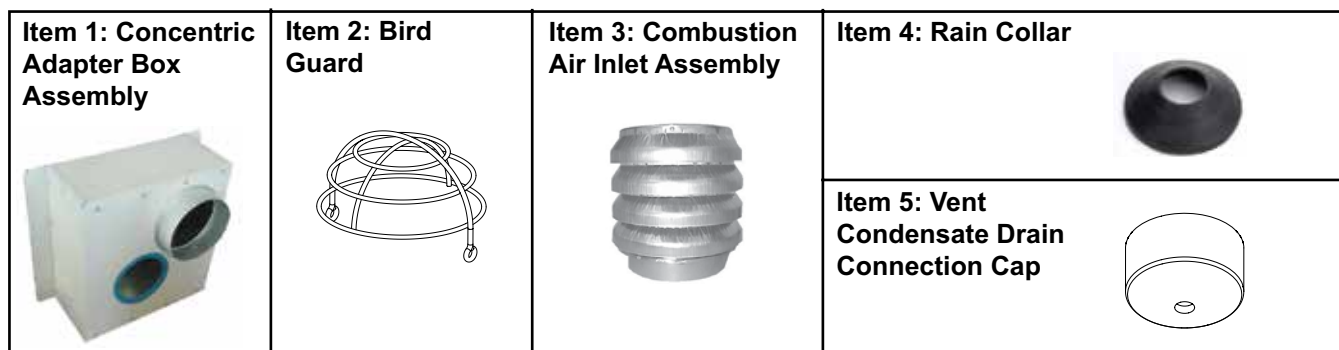
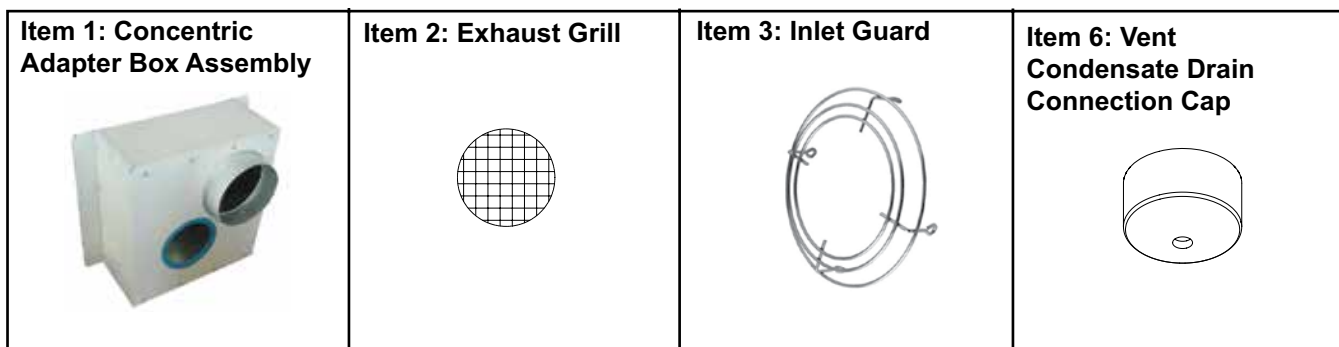

Figure 18. Vertical Vent/Combustion Air Kit—Model SHH (Refer to Table 24)
Figure 19. Horizontal Vent/Combustion Air Kit—Model SHH (Refer to Table 25)
- Vent terminal components for model SHH are shown in Figure 18 and Figure 19 and are listed in Table 24 and Table 25.